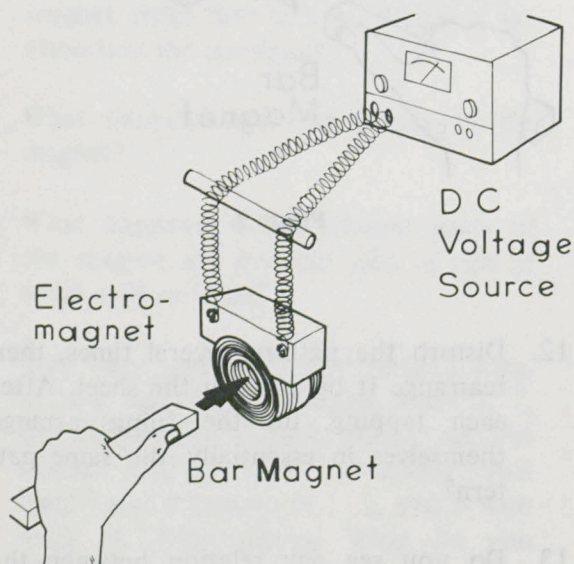

Figure 10.
4. Suspend a coil of wire as shown in Figure 10. Pass a current of 1.5 amperes (A) through the coil. Bring the N-pole of a magnet near the axis of the coil. Does the magnet exert a force on the coil? Try the same thing with a different current through the coil. Is there a difference?